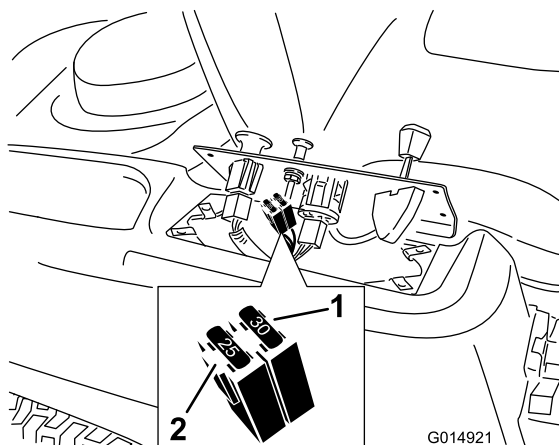

Figure 53
2. Lift the control pane up to access the main wire harness and fuse block (Figure 53).
3. To replace a fuse, pull out the fuse to remove it (Figure 53).